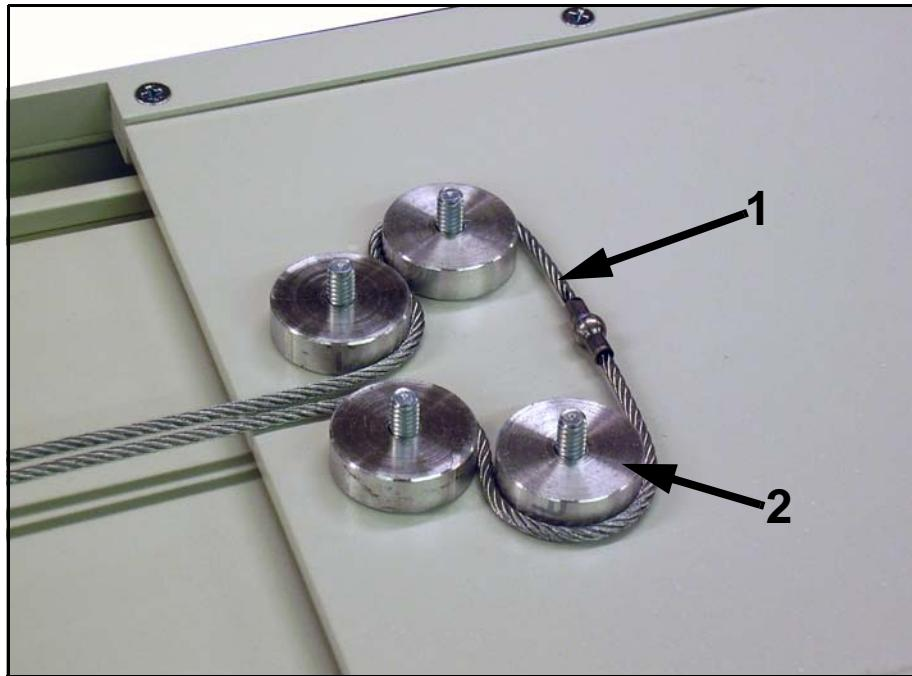

Figure 6-5. Cable End Disks
- 4 Unwrap cable (1 in Figure 6-5) from around disks (2).